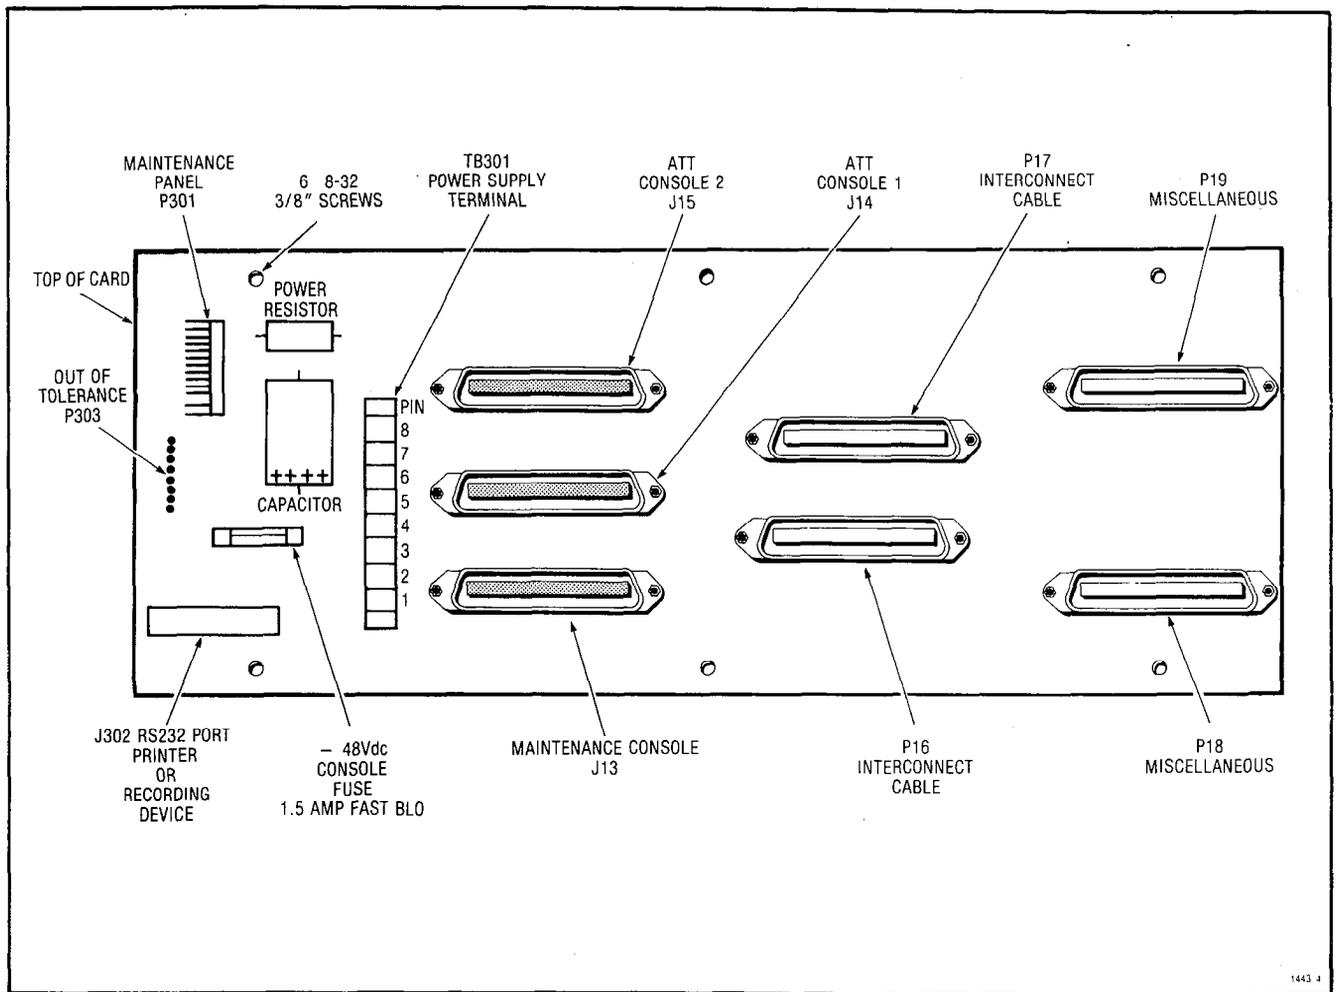

Fig. 2-5 SX-200 Interconnect Card
2.18 The SX-200 Interconnect Card (Fig. 2-5) provides a direct connection between the consoles (J13, J14 and J15) and the shelf backplane (P16 and P17). This board also contains the console fuse for protection of the console. Directly opposite the fuse is the RS232 printer port P302. For a complete description of this port see MITL9105/9110-98-450 and Table 2-6. Plugs P301 and P303 are the maintenance panel connector and the power supply out of tolerance monitor respectively. All power for the Interconnect card is supplied through the power supply terminal block TB301 on the board. Plugs J13, J14, and J15